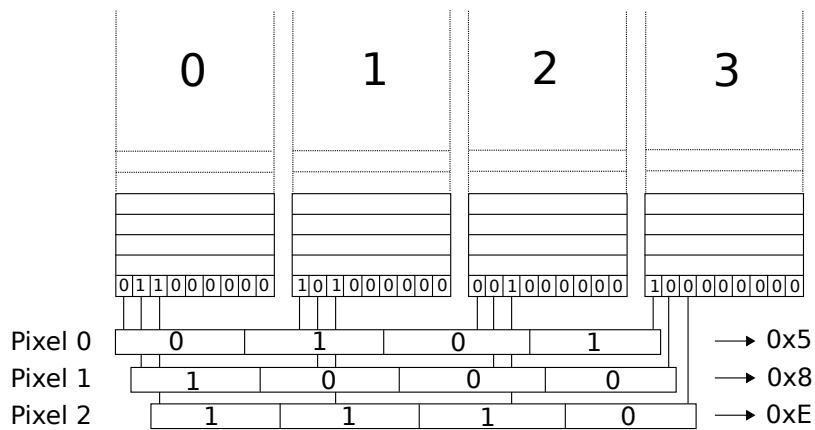

Figure 2.18: EGA bank layout
To write the color of the first pixel, a developer has to write the first bit of the nibble in plane 0 (R), the second in plane 1 (G), the third in plane 2 (B) and the fourth in plane 3 (I). The CRT Controller then reads 4 bytes at a time (one from each plane) resulting in 8 pixels on screen. So in figure 2.18 the first pixel has color magenta(05h), second pixel dark grey (08h) and third pixel bright yellow(0Eh).